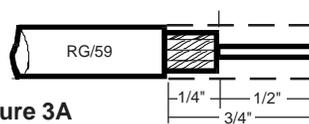

Figure 3A
**STEP 5.** Slide weather boot from matching transformer onto coax. To install the F-connectors, strip the ends of the RG-59 cable as shown in Figure 3A.